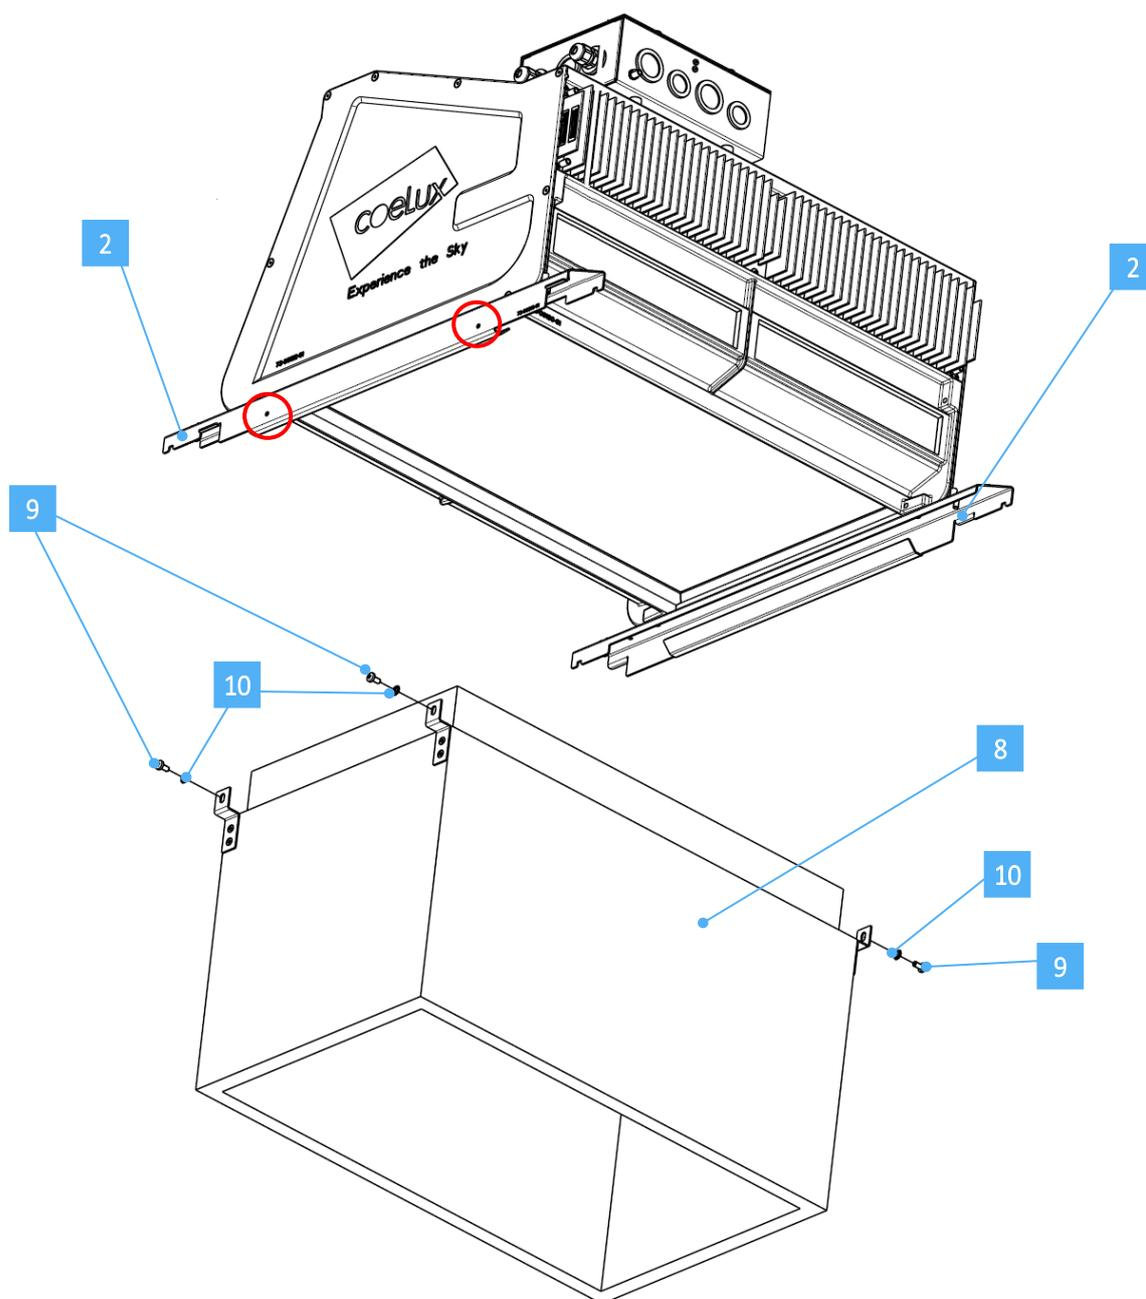

Fig. 9 Assembly of louvre IBLA.
- A. Take the *IBLA louvre* [8] (PN: 73-00035-01) out of the box and use the self-threading screws [9] and M5 washers [10] supplied to fasten it to the support bars [2] (the holes on the support bars have already been prepared, as highlighted by the red circles in Figure 9).